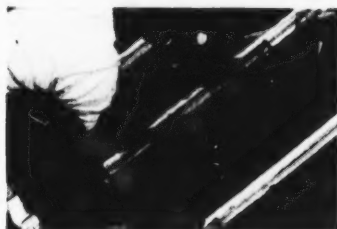

Figure 5
5. Place the glass on the bars so that the bottom edge rests on top of the glass below and laps it by about $\frac{1}{4}$ inch (Figure 5).